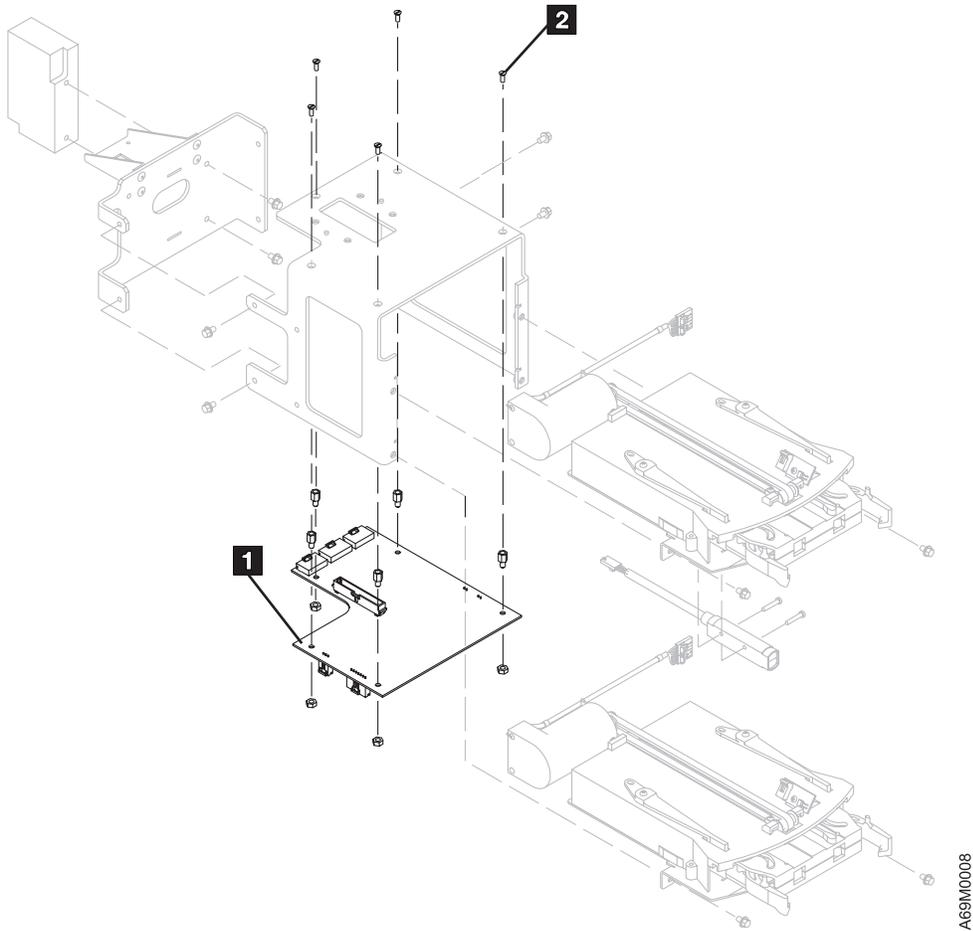

Figure 102. PDC Card
6. Refer to Figure 102 on page 573, and remove five screws **2**.